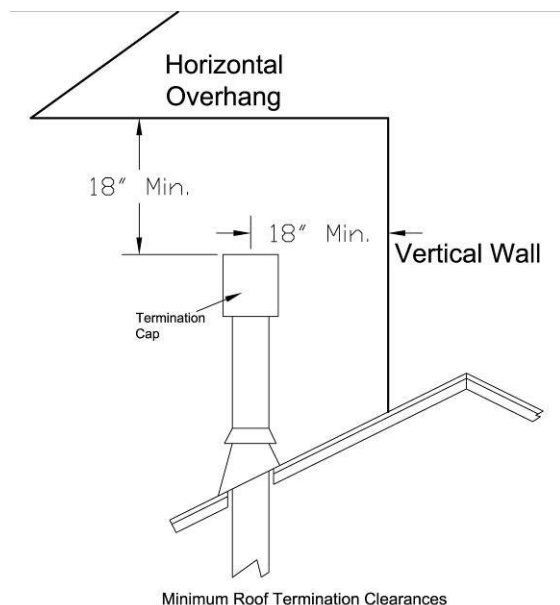

Figure 9 - Termination Cap clearances
- 🔥 All termination caps must be no less than 18" (457mm) horizontally from any roof or vertical surface. See Figure 9.
- 🔥 The termination must fall within the area shown in Figures 9 & 12.
- 🔥 All horizontal terminations must also comply with the clearance specifications to adjacent structures outlined in Figures 9 & 12.